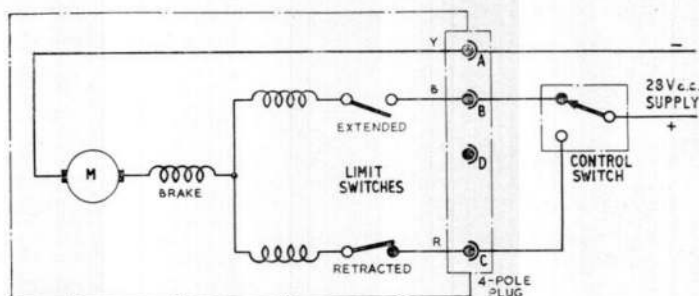
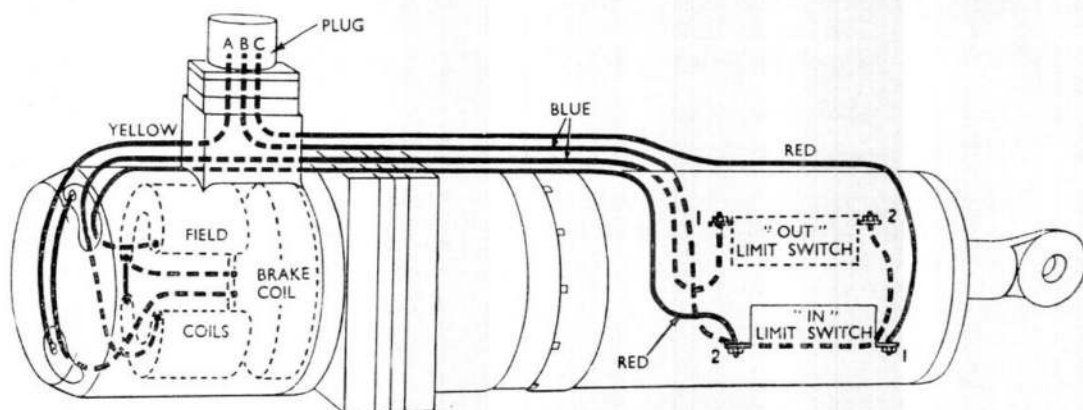

Fig. 5. Circuit diagram
Fig. 6. Schematic wiring diagram
22. Reference to the circuit diagram (*fig. 5*) and schematic wiring diagram (*fig. 6*) will indicate how the limit switches are connected in the circuit.